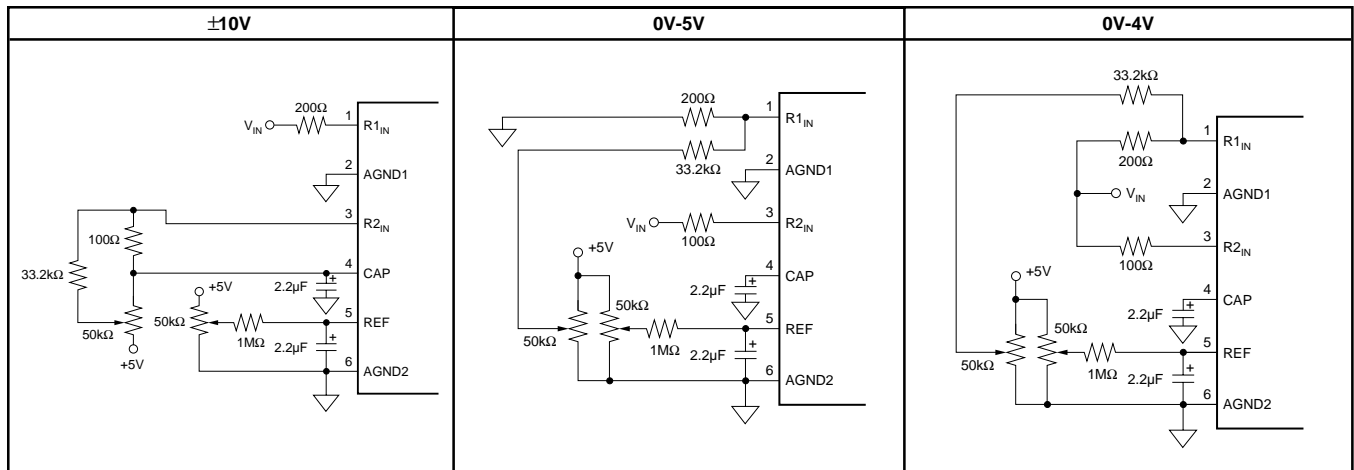
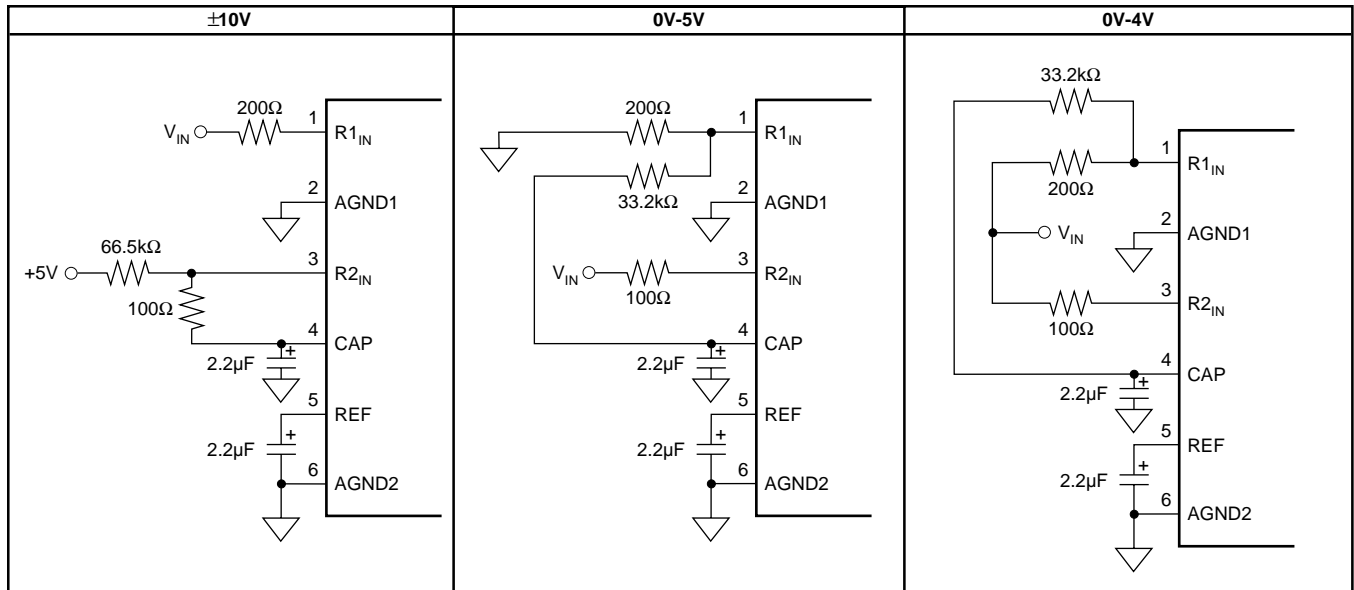
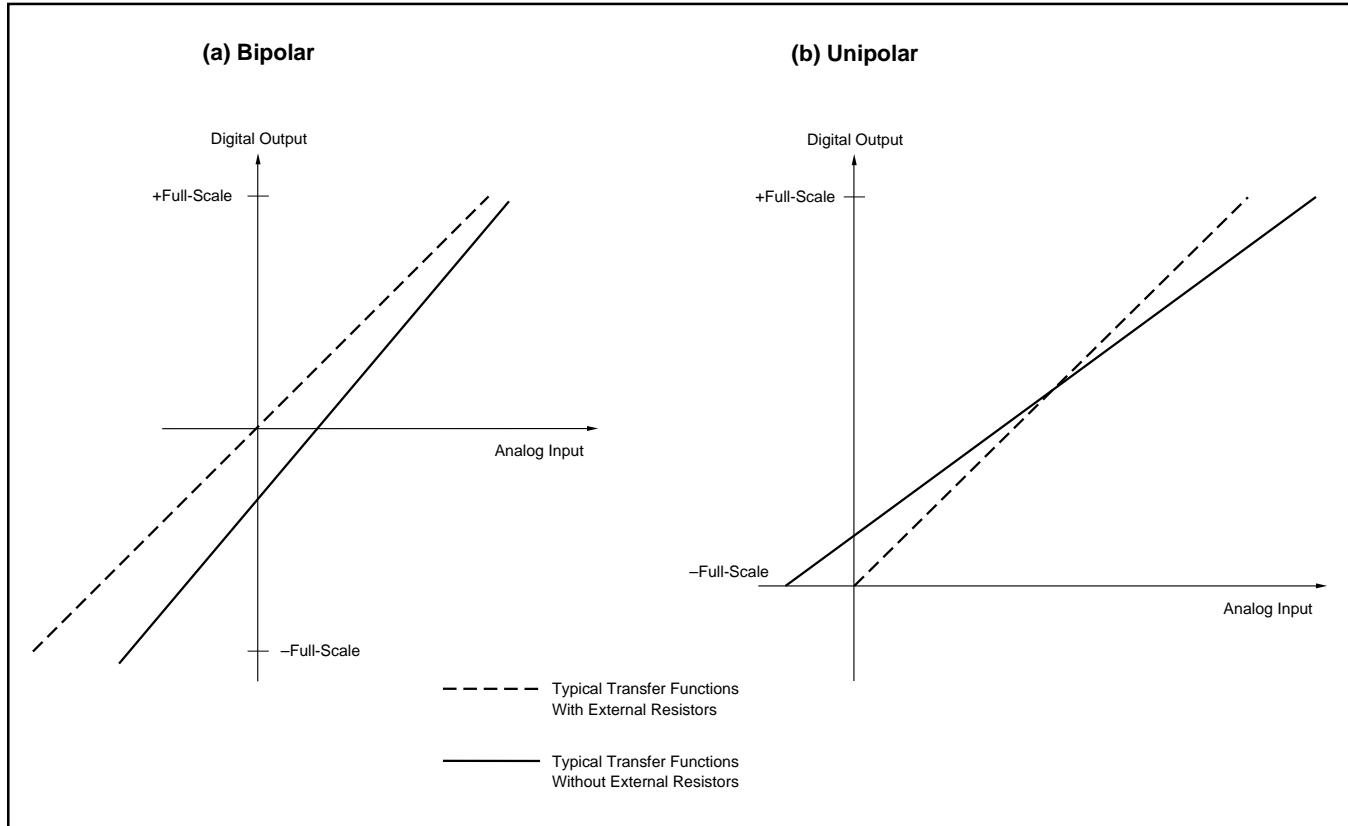

FIGURE 7a. Circuit Diagrams (With Hardware Trim).
FIGURE 7b. Circuit Diagrams (Without Hardware Trim).
FIGURE 8. Typical Transfer Functions With and Without External Resistors.
The ADS7807 offers three input ranges: standard ±10V and 0V-5V, and a 0V-4V range for complete, single-supply systems. See Figures 7a and 7b for the necessary circuit connections for implementing each input range and optional offset and gain adjust circuitry. Offset and full-scale error(1) specifications are tested with the fixed resistors, see Figure 7b. Adjustments for offset and gain are described in the Calibration section of this data sheet.
used for each input range (see Figure 8). The input resistor divider network provides inherent over-voltage protection to at least  $\pm 5.5\text{V}$  for  $R_{2\text{IN}}$  and  $\pm 12\text{V}$  for  $R_{1\text{IN}}$ .
To calibrate the offset and gain of the ADS7807 in hardware, install the resistors shown in Figure 7a. Table VI lists the hardware trim ranges relative to the input for each input range.
To calibrate the offset and gain in software, no external resistors are required. However, to get the data sheet specifications for offset and gain, the resistors shown in Figure 7b
TABLE VI. Offset and Gain Adjust Ranges for Hardware Calibration (see Figure 7a).
Figure 7b shows circuit connections. Note that the actual voltage dropped across the external resistors is at least two orders of magnitude lower than the voltage dropped across the internal resistor divider network. This should be consid-
The external resistors, see Figure 7b, may not be necessary in some applications. These resistors provide compensation for an internal adjustment of the offset and gain which allows calibration with a single supply. Not using the external resistors will result in offset and gain errors in addition to those listed in the electrical characteristics section. Offset refers to the equivalent voltage of the digital output when converting with the input grounded. A positive gain error occurs when the equivalent output voltage of the digital output is larger than the analog input. Refer to Table VII for nominal ranges of gain and offset errors with and without the external resistors. Refer to Figure 8 for typical shifts in the transfer functions which occur when the external resistors are removed.